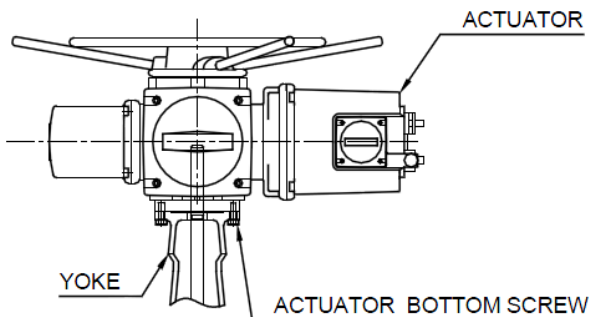

Fig. 15
- In order to dismount actuator/gear unit from valve, after unscrewing the bottom screws of yoke, lift the actuator/ gear unit slightly and rotate it for few turns in counter-clock wise direction so as to remove the stem from actuator bush. Thus actuator/gear unit can be dismounted from valve. (Fig. 15 & 16)